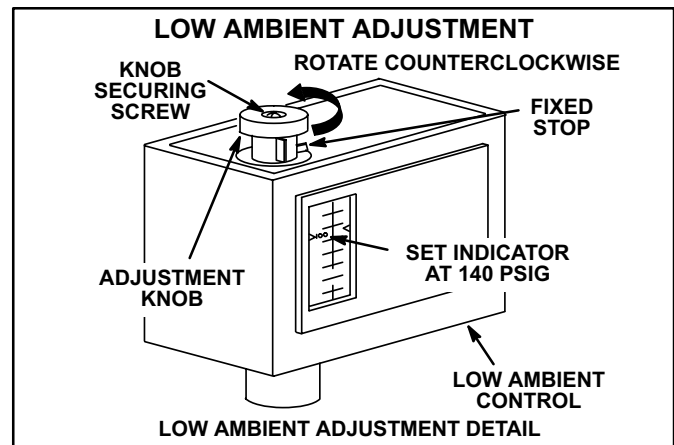

FIGURE 28
- 1- Loosen knob securing screw to allow knob stop to pass over fixed stop on control (see figure 28).